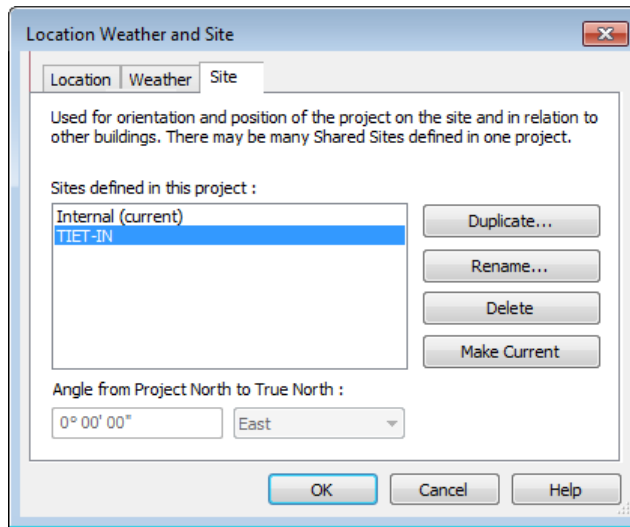

Figure 3-42 TIET-IN option selected in the Sites defined in this project list box of the Site tab
3. Enter **TIET-IN** in the **Name** edit box and then choose the **OK** button; the **Name** dialog box closes and the name entered is displayed and highlighted in the **Sites defined in this project** list box of the **Location Weather and Site** dialog box, refer to Figure 3-42.